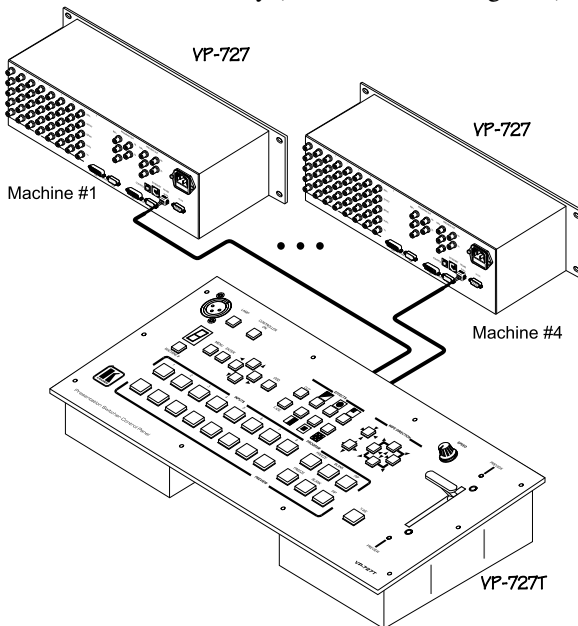

Figure 7: Connecting the VP-727T
To connect the **VP-727T** to up to four **VP-727** machines, as the example in Figure 7 illustrates¹, do the following²:
2. Connect the 12V DC power adapter to the power socket and connect the adapter to the mains electricity (not illustrated in Figure 7).